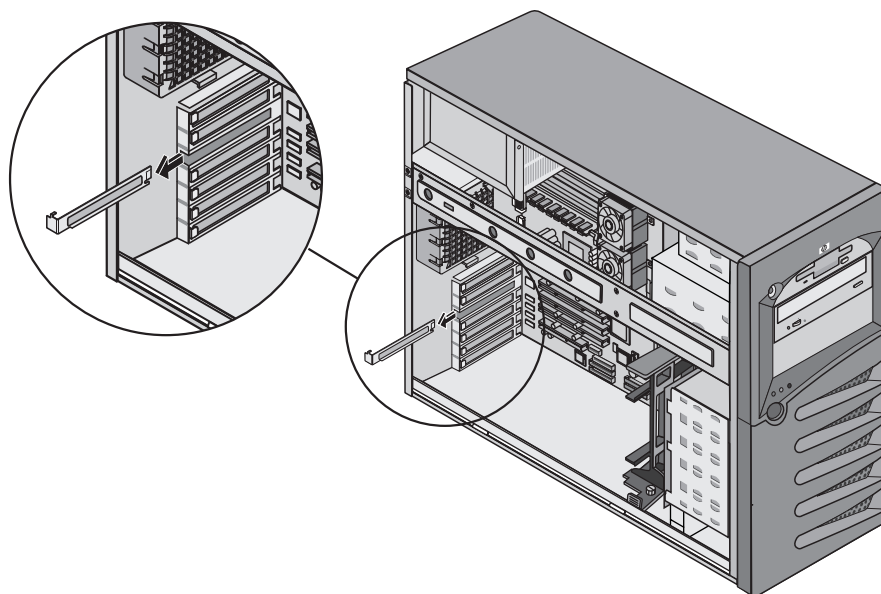

Figure 2-22: Removing slot cover
8. Push the PCI slot cover from the rear of the chassis and slide it towards you to remove it. Refer to Figure 2-22.